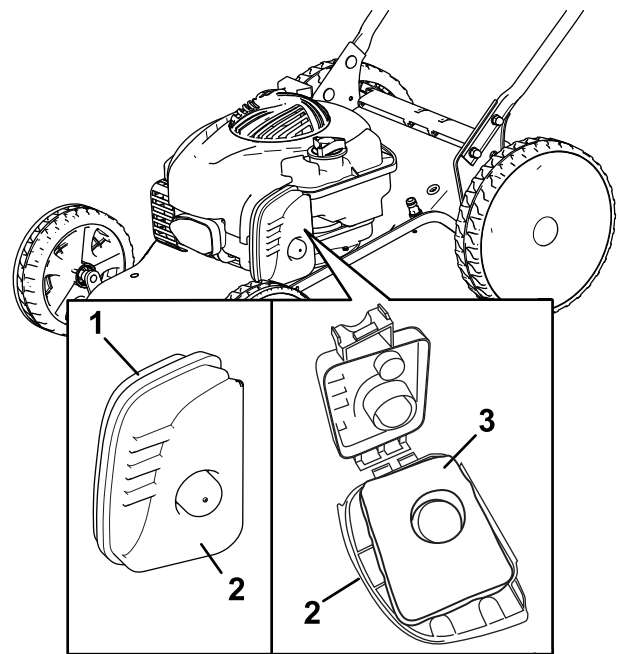

**Figure 22**
5. Set the gap on the new plug to 0.51 mm as shown in Figure 22.